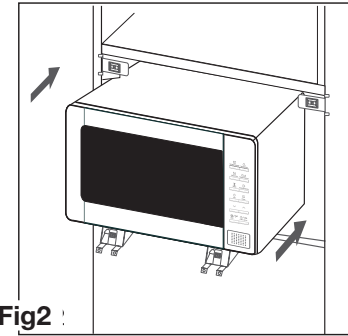

Fig2
2. Insert the microwave oven into the cabinet. (Fig2)